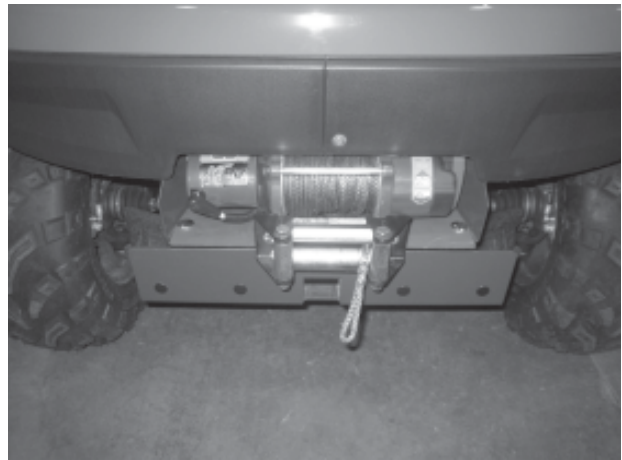

Figure 4
4. From underneath the mounting plate, secure the winch to mounting plate by fastening the bolts through the fairlead bracket into the winch using two (2) M8-1.25 x 25mm bolts and lock washers on the motor side, and two (2) M8-1.25 x 20mm bolts and lock washers on the clutch side. All hardware is provided in the winch fastener kit. 8mm bolts, supplied with the winch, Figure 4.